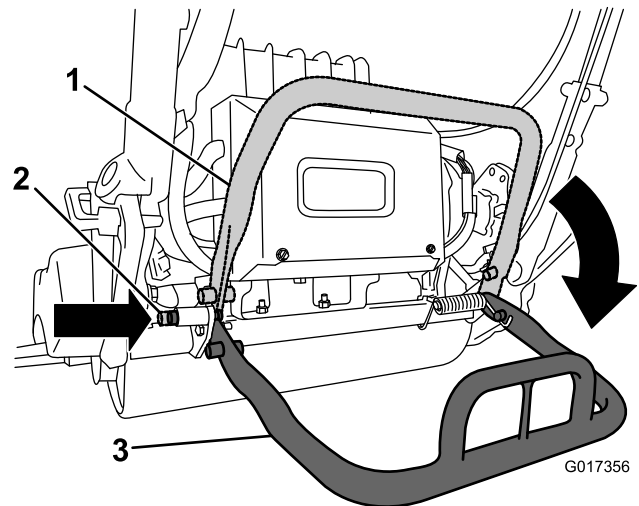

Figure 4
2. Lower the kick stand and push in the locking pin to lock the kick stand in the service position (Figure 4).